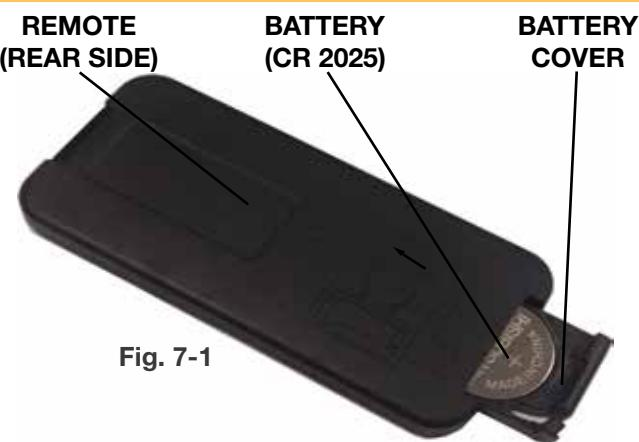

Fig. 7-1
2. To remove the battery holder, turn the remote onto the front side and press the left side lever towards the center while pulling the battery holder out using the slot provided (**Fig. 7-1**).